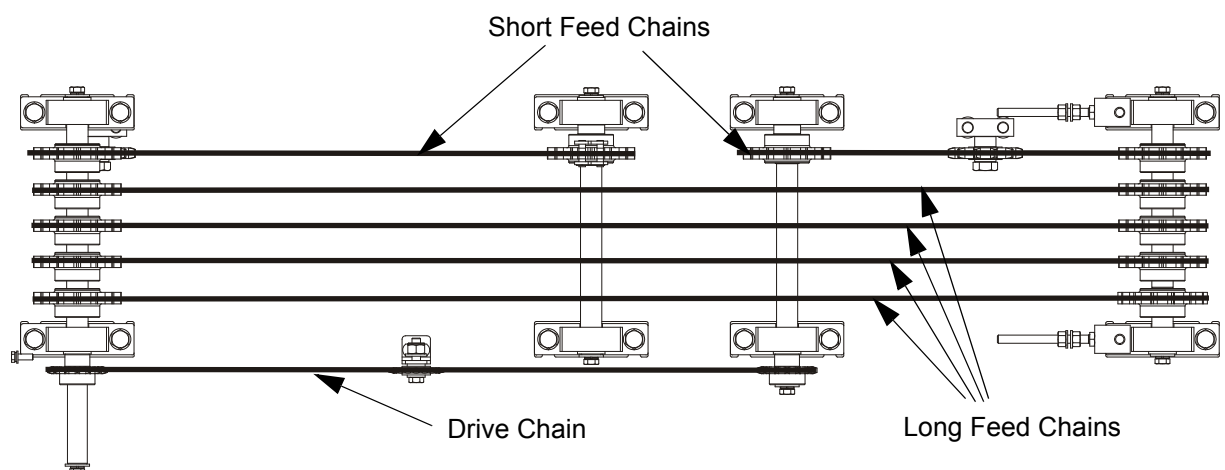

FIG. 3-15
7. Replace the worn chain or chains. Route the new chains as shown on Figure 3-15